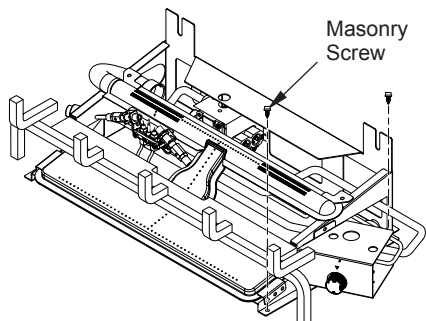

Figure 11 - Attaching Heater Base to Fireplace Floor
2. Mark screw locations through holes in mounting brackets (see Figure 11). If installing in a brick-bottom fireplace, mark screw locations in mortar joint of bricks.
5. Attach base assembly to fireplace floor using two masonry screws provided in hardware package (see Figure 11).